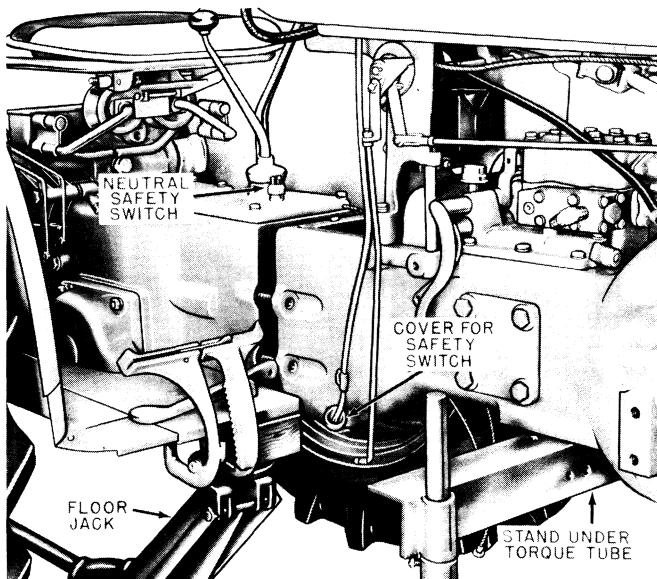

Fig. A-13 Splitting Tractor at Rear End of Torque Tube
18. Put stand similar to one shown under torque tube and floorjack under transmission case. Fig. A-13.
8. Attach wires to neutral safety switch on transmission cover. Be sure rubber cover is completely in place to keep moisture out. If this is not done switch could become shorted through a moisture contact. Fig. A-13, page A-15.